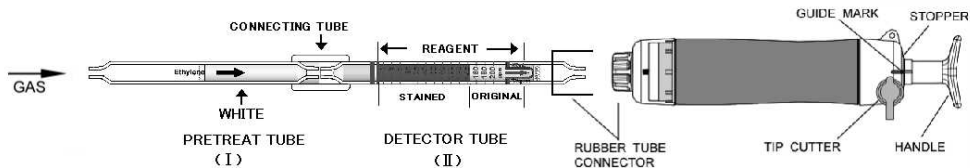

Fig.1
- ① Break both ends of the pretreat tube (I) and detector tube (II), and connect each end of the pretreat tube (I) and detector tube (II) with connecting tube as shown in Fig. 1.
- ② Insert the detector tube (II) into the aspirating pump securely as shown in Fig.1. (Arrow marks shall point to the pump.)
- ③ Align the guide marks on the shaft and stopper of the aspirating pump.
- ④ Pull the pump handle at a full stroke until it locks and wait for 3 minutes or until the completion of sampling is confirmed with the flow indicator of the pump (See descriptions about the flow indicator in the instruction manual of the pump).
- ⑤ Push back the handle without removing the detector tube from the rubber tube connector so that air in the pump will be discharged perfectly.
- ⑥ Then repeat the steps ③~⑤ three times more.
- ⑦ On completion of sampling, read the scale at the maximum point of the stained layer.
- ① Temperature; Correct the tube reading by following temperature correction table.